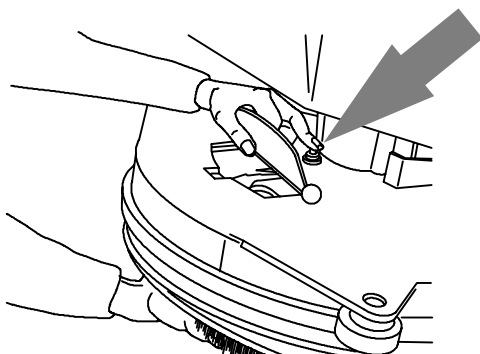

FIG. 15
- Press down on the brush lock pin and turn brush clockwise. The brush will drop off drive plate (Figure 15).